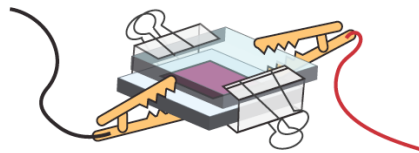

Figure 4. Assembled PV cell with binder clips and electrodes.
- Place the titania/dye electrode face up on the lab bench. Place the counter electrode on top of it, offsetting it so that the film is still covered by the counter electrode, but there is about 1/8” of the glass exposed for connections on both electrodes. See figure 4.